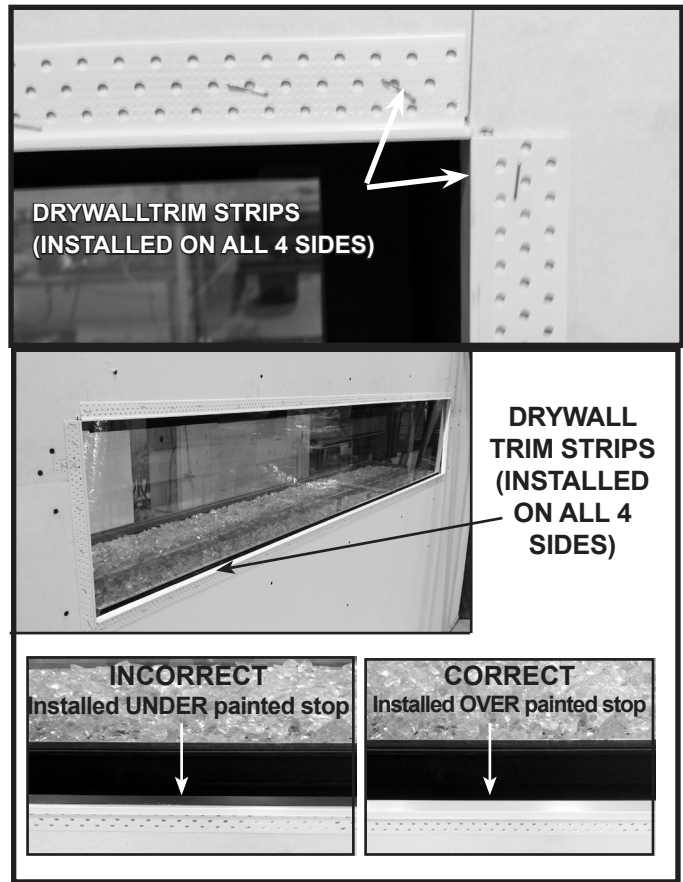

Figure 10.5 Install Drywall Trim Strips
2. Install drywall trim strips as shown in Figure 10.5 on all sides of appliance. Drywall trim strips are included with the appliance. Cut the strips to the required length and install them using staples. See Figure 10.5 for placement of trim strips.